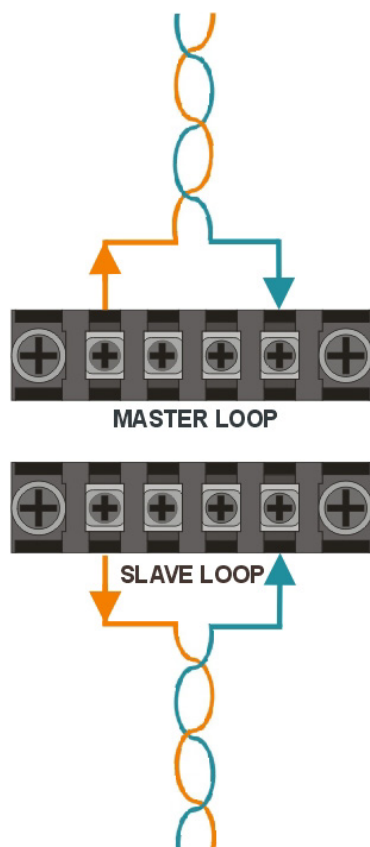

Fig.2 Connecting the induction loop
- Twist the section of cable between the amplifier and the loop (supply to the induction loop) to reduce interference. (See Fig.2)
- Connect the cable ends of the loop to the corresponding outer terminals (13) on the rear panel of the amplifier. Make sure that you do not mix up the ends of the master and the slave cable.